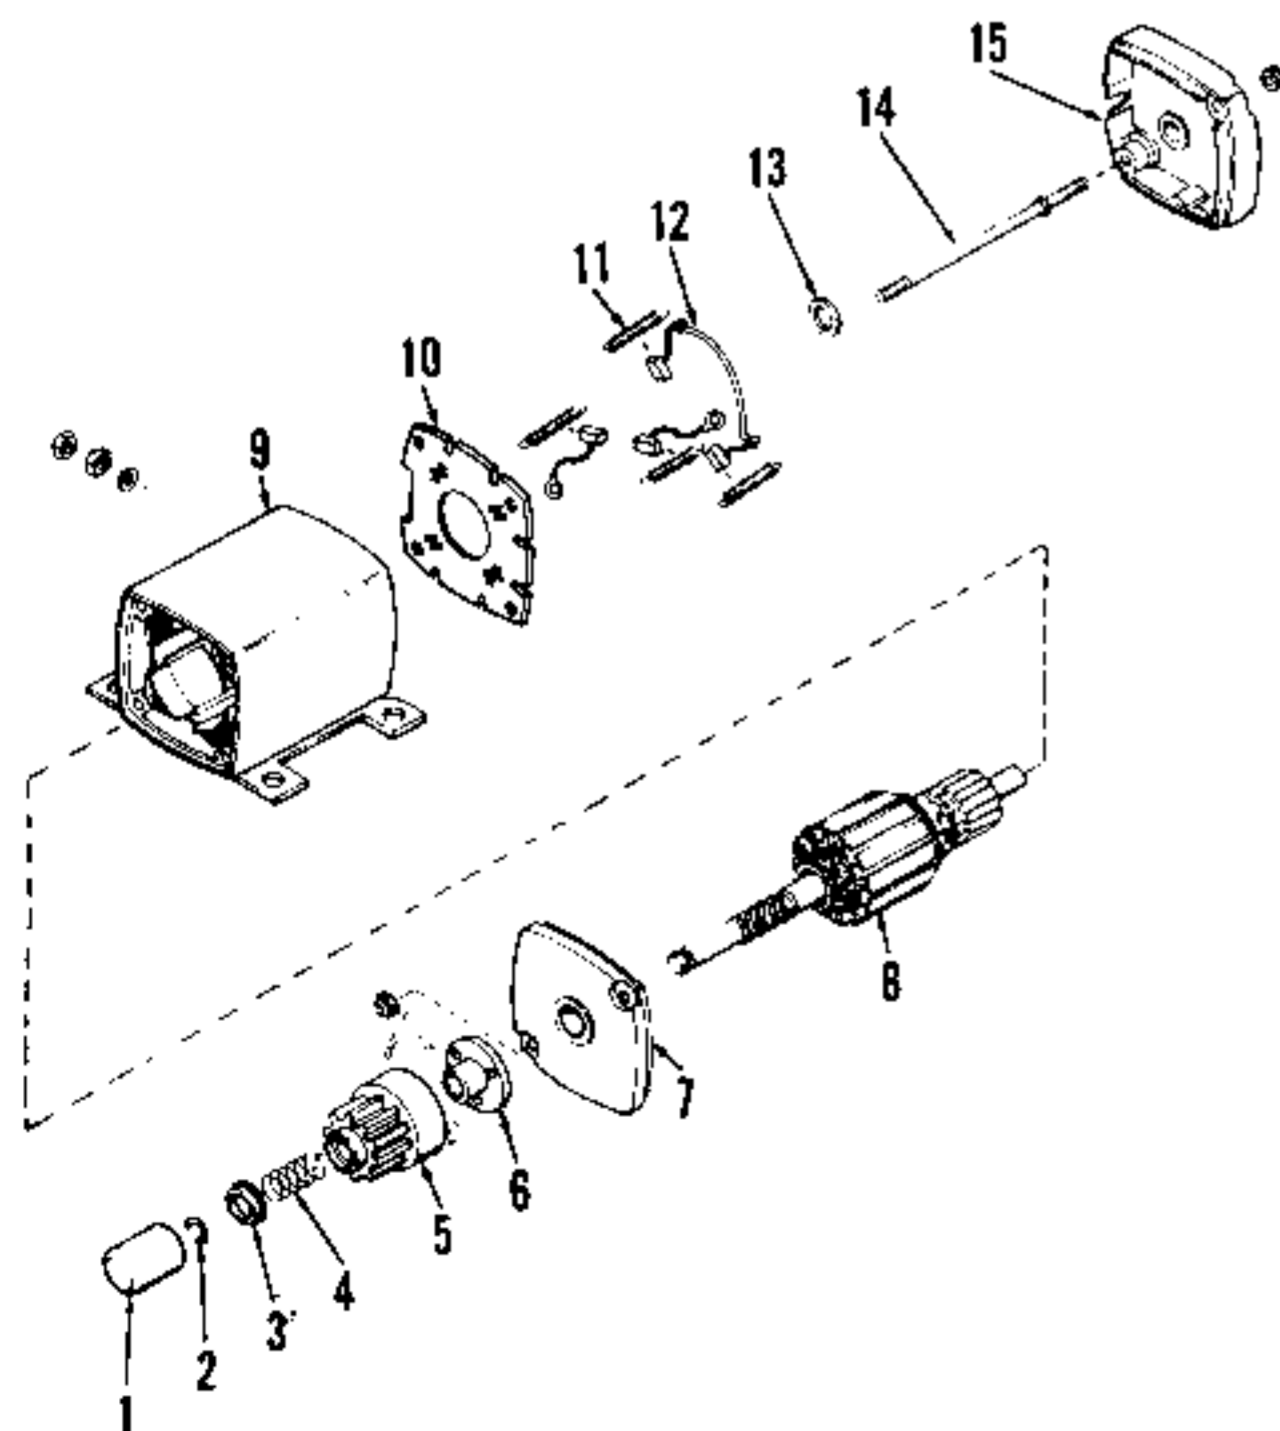

Fig. T86—Exploded view of 12-volt starter motor used on some models.
Disassembly and reassembly of starter motors 33605, 33606 and 33835 is evident after inspection of unit and referral to Fig. T86. Note that stops on through-bolts (14) are used to secure brush card (10) in housing (9).
Fig. T85—Exploded view of 12-volt starter motor Model No. 32817. Other starter motors are similar except as shown in Fig. T86. Spacer (15) is available in different thicknesses to adjust armature end play.